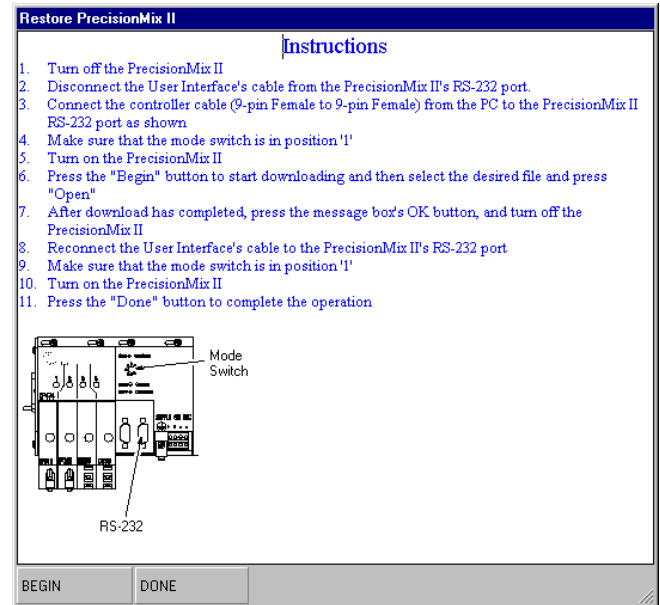

Fig. 13.14
2. An Instructions window to Restore PrecisionMix II will appear. See Fig. 13.14.
4. Press the BEGIN button on the Instructions window to begin the restore. See Fig. 13.14.